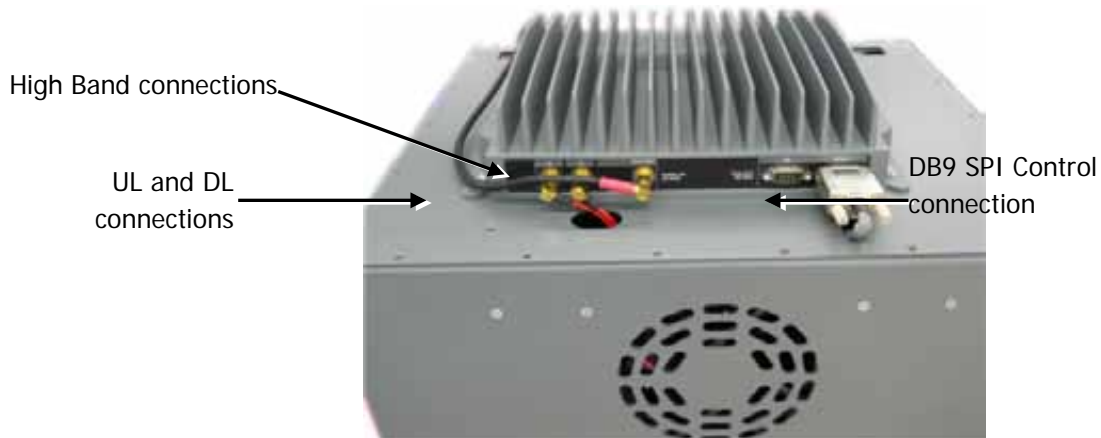

Figure 4-9: AWS AO Rear Panel Cable Connections
1. Interconnect DB-9 SPI cable between the RHU and the AO rear panel **From** connector. Refer to Figure 4-9.
2. Perform the following RF connections (Refer to Figure 4-9):